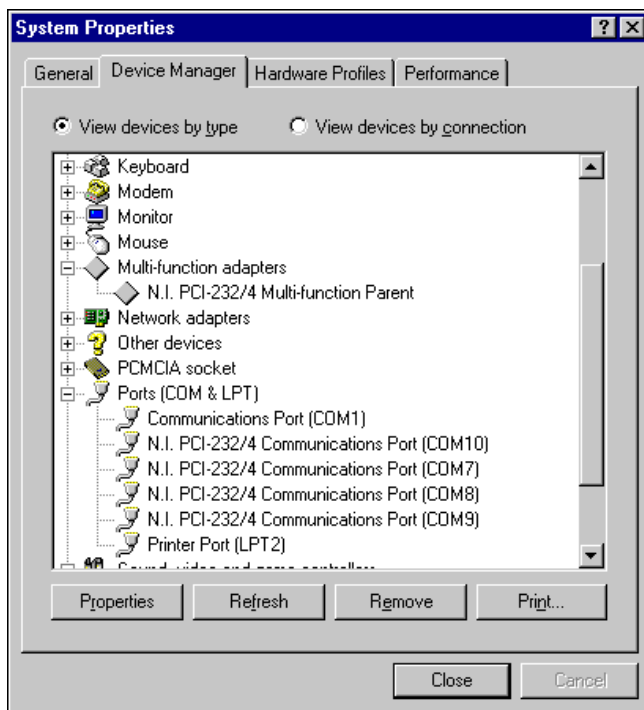

Figure C-1. Ports List in Device Manager
5. Select the interface that Windows 98/95 did not detect, as shown in Figure C-1.